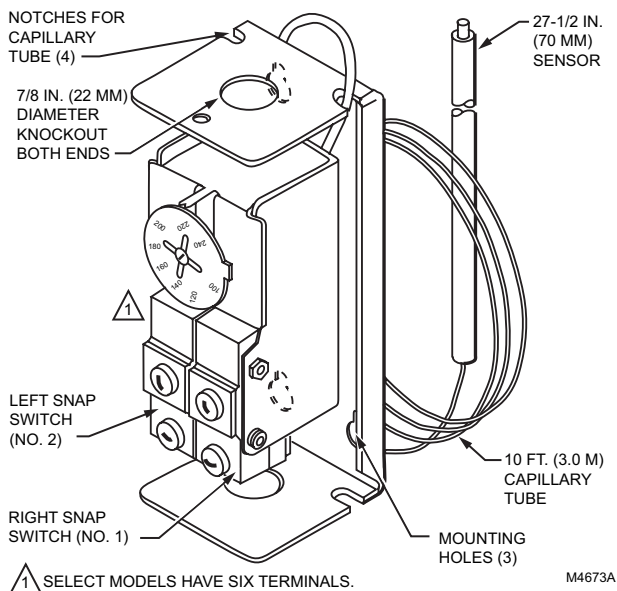
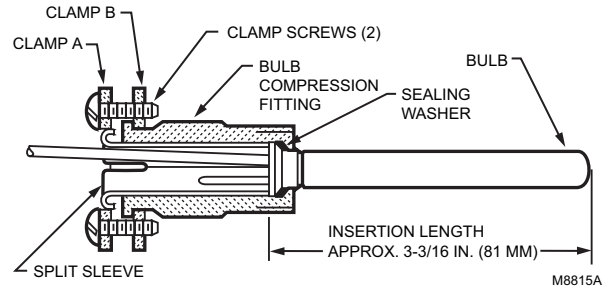
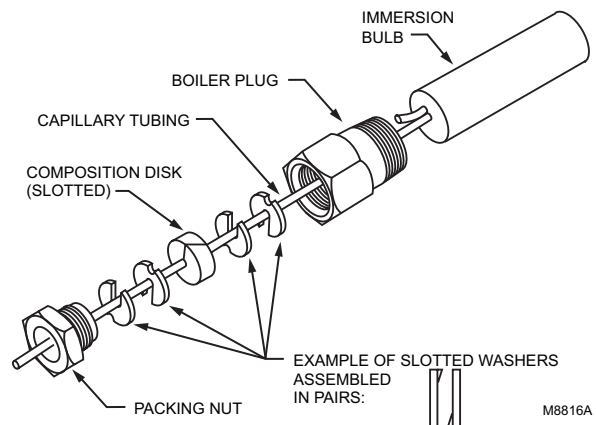

Fig. 9. Internal view of L4008L or L6008G.
Fig. 10. Bulb compression fitting. Use with L4006A,B; L6008A.
Fig. 11. Capillary compression fitting. Use with L4008.
The remote temperature-sensing bulb can either be installed in an immersion well (See Fig. 8) that extends into the boiler or tank, or it can be directly immersed in the controlled medium (See Fig. 9). For installations that do not use a well, secure the remote bulb with a bulb compression fitting (See Fig. 10), or capillary compression fitting. (See Fig. 11).
4. Slide the split sleeve into the fitting. (See Fig. 10).
4. Place the composition disk and four slotted brass washers on the tubing in the order shown in Fig. 11. Turn the brass washers so the slots are 180 degrees apart.